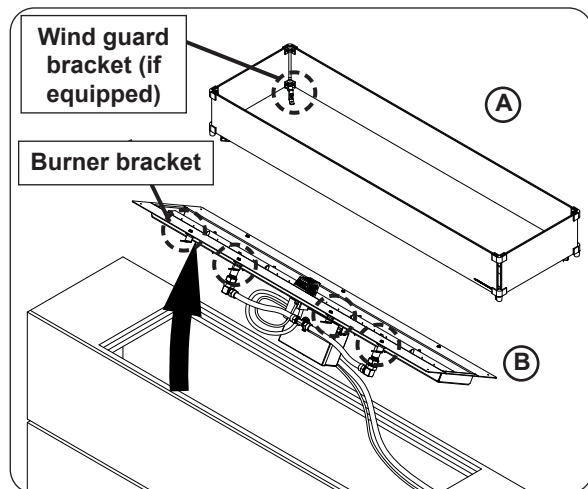

Fig. 41-1 Remove wind guard, then burner assy
1. If equipped, remove the wind guard from the burner. Remove all media. Use a $\frac{5}{16}$ " nut driver to unfasten the four screws found on the burner assembly. See Fig. 41-1, A.
2. Use a $\frac{5}{16}$ " nut driver to partially unfasten the eight screws found on the burner assembly. Then remove the burner and set it off to the side. See Fig. 41-1, B.